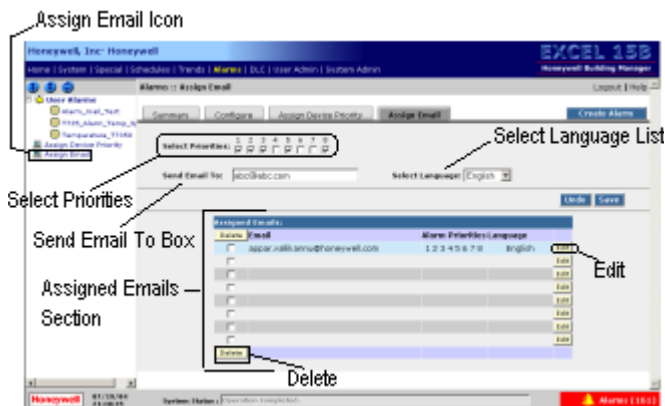

Fig. 70. Alarms::Assign Email Page
- On the “Alarms::Assign Email” page, go to the “Assigned Emails” section (refer to **Fig.70**).